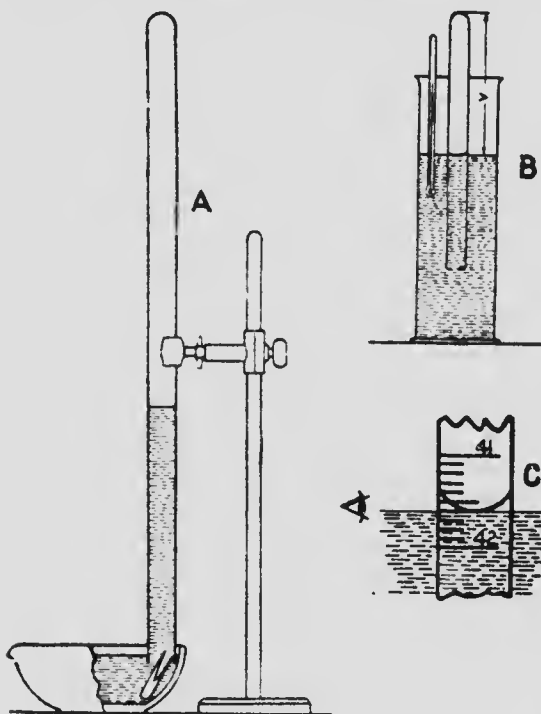

FIG. 32.
**Sketch.**—Fig. 32, A.
**Experiments.**—Set up the apparatus as shown in Fig. 32.
- (1) Fill the mortar three-fourths full of water.
- (2) Half fill the gas-measuring tube with water and then completely fill to the top with dilute sulphuric acid (1:5).
- (3) Place your first finger over the end of the tube and invert it in the mortar. When your finger is below the surface of the water in the mortar it may be removed. Rinse your finger.
(4) Clamp the tube in place, having the tube close to the side of the mortar as shown in Fig. 32, A.
(5) Place an accurately weighed piece of clean magnesium ribbon (about .04 gm. for a 50 cc. tube) in the glass cup, and fill the glass cup with water.
(6) Quickly place the mouth of the cup into the opening of the measuring tube and be sure not to lose any of the gas evolved.
measure the volume of the gas as shown in Figs. 32, B, and C, noting the temperature of the water, i.e., the temperature of the gas.